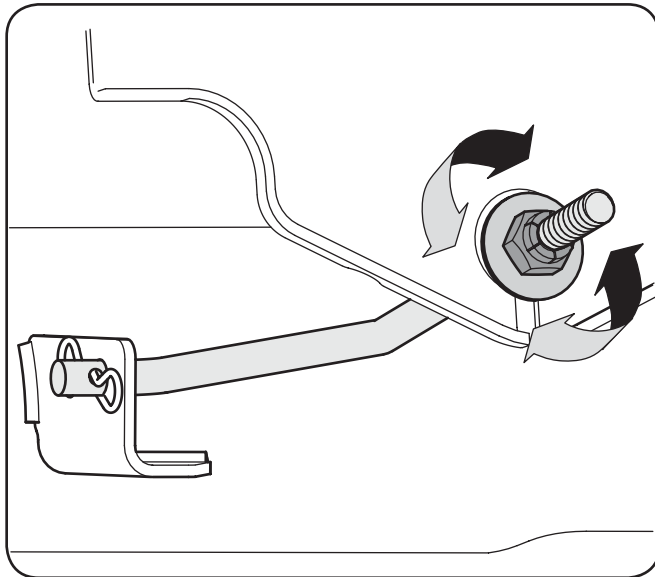

Figure 6-5
3. Locate the flange lock nut on the front side of the stabilizer bracket. See Fig. 6-5. To level the deck from front to rear: